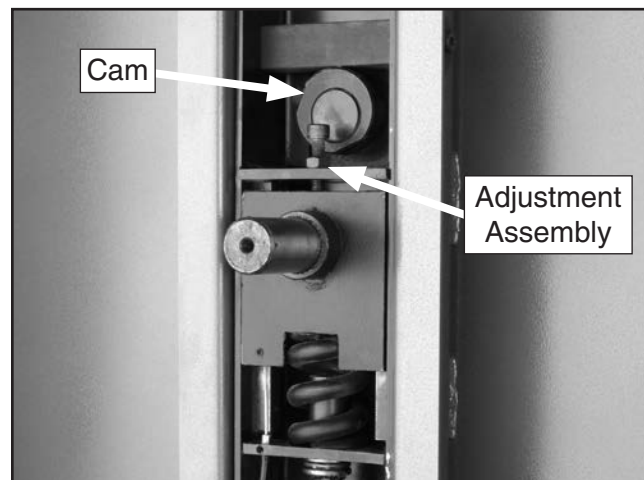

Figure 89. Example of tension adjustment assembly locations (top wheel removed for clarity).
4. Apply a thin coat of lubricant to the tension adjustment assembly and tension lever cam (see **Figure 89**).